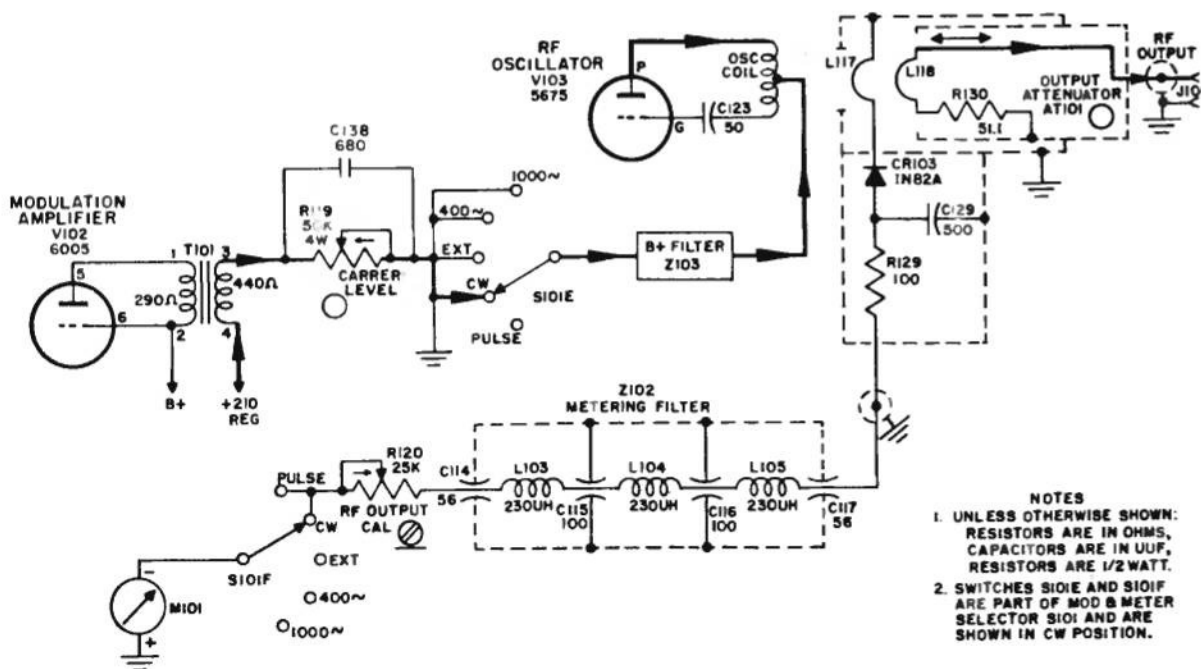

Figure 4-4. Simplified Schematic Diagram of the Waveguide-Below-Cutoff Attenuator and RF Level Monitoring.
d. CARRIER LEVEL MEASURING CIRCUIT. — (See figure 4-4.) The carrier level is measured *only in CW position* of MOD and METER SELECTOR knob. A small loop (L117) between the rf oscillator tank circuit and
e. VARIABLE RF OUTPUT ATTENUATOR. - (See figure 4-4.) The output coil L118 feeds the rf output, whether cw or modulated, to RF OUTPUT jack, J101, on the front panel. The output terminating resistor R130 is within the attenuator casing. The attenuator AT 101 is the Waveguide-Below-Cutoff type in which L118 is moved by a gear arrangement within a waveguide, varying its energy-pickup from the oscillator coil. The gearing includes the RF OUTPUT dial on the front panel, which reads directly on the outer logarithmic scale in microvolts and on the inner linear scale in (-) dbm.
Signal Generator SG-117/URM-26B has a characteristic output impedance of approximately 50 ohms (resistor R130) (see figure 4-4.). The microvolts input to a receiver under test will be accurate only when the signal generator is terminated in approximately 50 ohms resistive at the receiver end of the test cable. This voltage under terminated conditions is read directly on the MICROVOLTS scale of the RF OUTPUT dial. Two RF Cords 7' long and two RF Cords 4' -1" long are provided for making the necessary output connections (see figure 1-1). All four cables are identical except for length and consist of RG-58C/U cables with one type UG-88/U connector at each end. The characteristic impedance of these cables is approximately 50 ohms and there will be no standing wave losses between the signal generator and receiver if the receiver end is terminated in approximately 50 ohms. Most modern Navy receivers present a resistive input impedance of 50 ohms. This is especially true for receivers covering frequency ranges above 50 mc. In these cases, the output of the generator at the RF OUTPUT jack J101, can be connected direct to the receiver input. The microvolt reading determined from the RF OUTPUT dial will accurately represent the input voltage to the receiver under